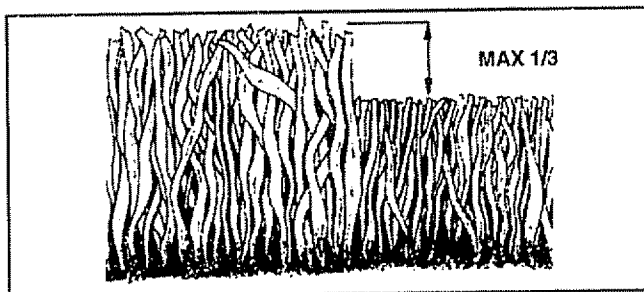

FIG. 13
- For best results, adjust the mower cutting height so that the mower cuts off only the top one-third of the grass blades (See Fig. 13). For extremely heavy mulching, reduce your width of cut and mow slowly.